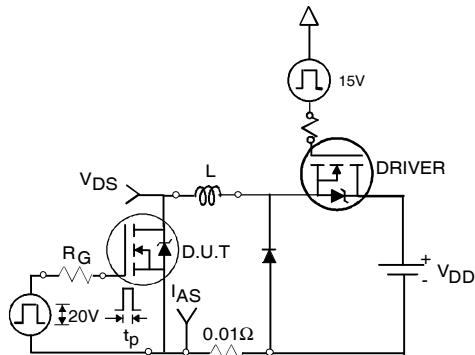

Fig 12a. Unclamped Inductive Test Circuit
- ③ $I_{SD} \leq 82A$, $di/dt \leq 310A/\mu s$, $V_{DD} \leq V_{(BR)DSS}$, $T_J \leq 175^\circ C$
- ④ Pulse width $\leq 400\mu s$; duty cycle $\leq 2\%$.
- ⑤ C_{oss} eff. is a fixed capacitance that gives the same charging time as C_{oss} while V_{DS} is rising from 0 to 80% V_{DSS} .
- ⑥ Limited by T_{Jmax} , see Fig. 12a, 12b, 15, 16 for typical repetitive avalanche performance.
- ⑦ When mounted on 1" square PCB (FR-4 or G-10 Material). For recommended footprint and soldering techniques refer to application note #AN-994.
3. Equation below based on circuit and waveforms shown in Figures 12a, 12b.